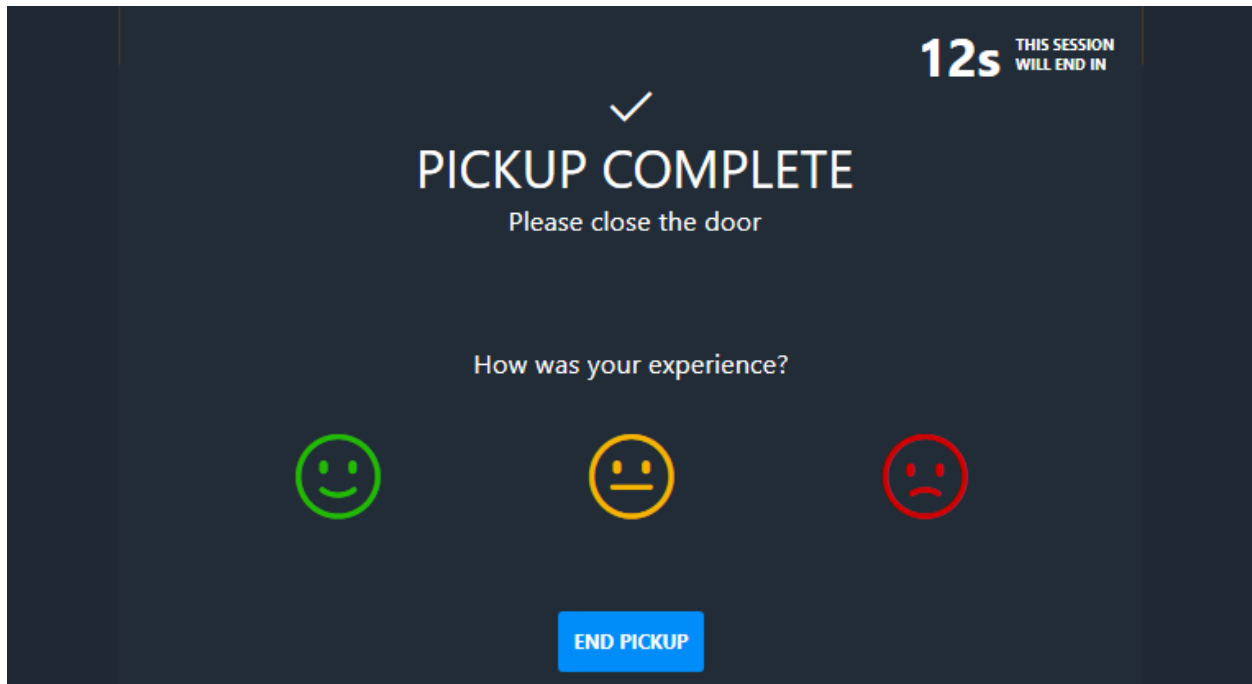

Figure 36: Satisfaction survey
5. At the end of the pickup, you can rate your experience by **tapping** the appropriate **face** to indicate if your experience was **Good**, **Fair**, or **Poor**. You will have 15 seconds to respond. See Figure 36.